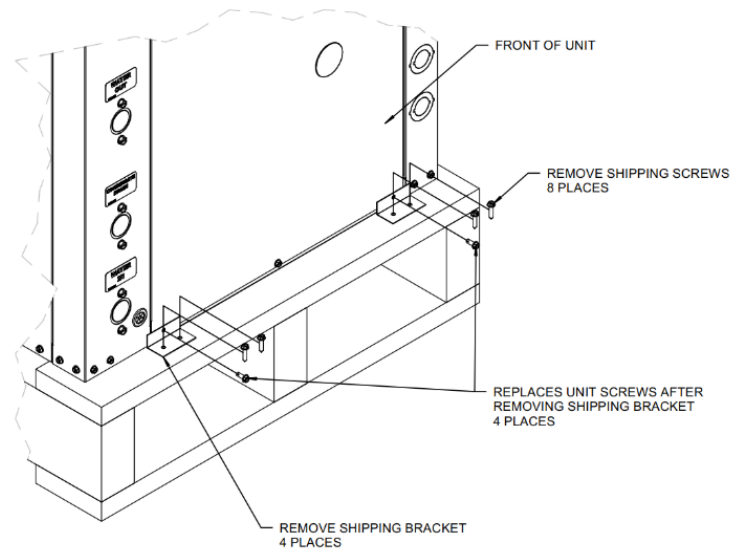

FIGURE 3— Standard Packaging with Brackets
- 9) Ensure that the shipping screws are removed from the unit. Refer to **FIGURE 3 – Standard Packaging with Brackets** for more information.